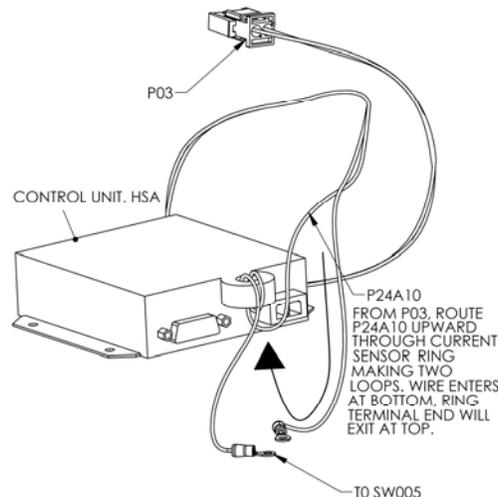

Figure 77-7 Showing the Looping of the Wire Through the Current Sensor
10. Loop the wire through the current sensor as shown in Figure 77-7. From P03 route the wire P24A10 upward through the current sensor ring, making two loops through the sensor, wire enters at the bottom. The ring terminal end will exit at the top of the sensor.